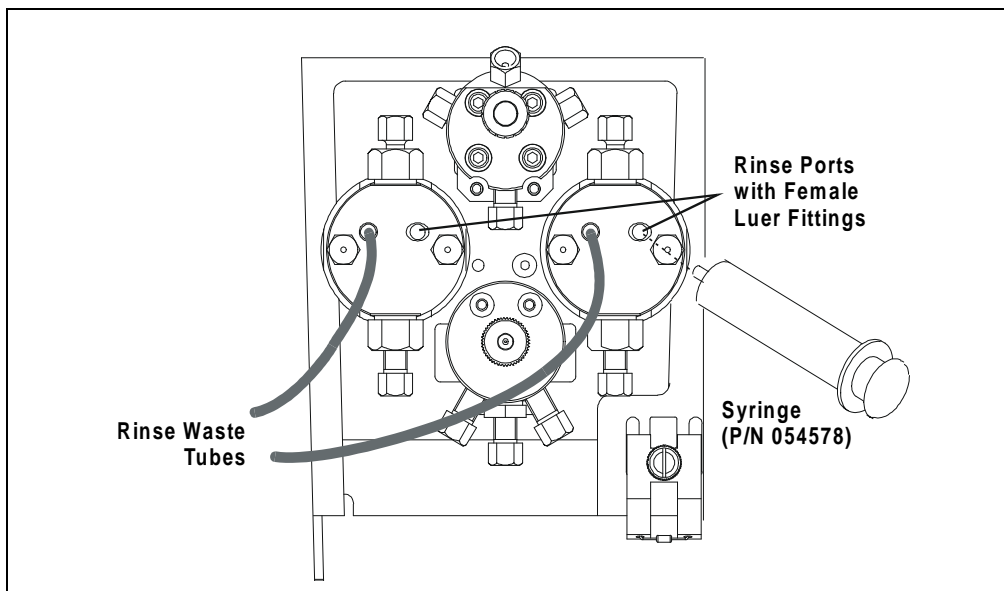

Figure 3-4. Rinsing the Pump Heads
1. Open the lower door of the IC25 and locate the rinse ports on the front of the pump heads (see Figure 3-4).